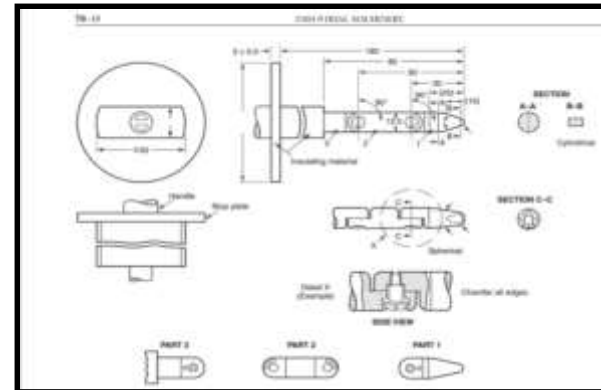

Figure 6.2.3
- *In the absence of a rated enclosure, the determination of suitability of an enclosure as protection from electrical shock shall be determined by using a test finger as described in Figure 6.2.3. The test finger shall be applied, with only minimal force, in every opening in the enclosure after removal of all parts of the enclosure that are capable of being removed without the use of a tool. The test finger shall not encounter live parts in any direction.*